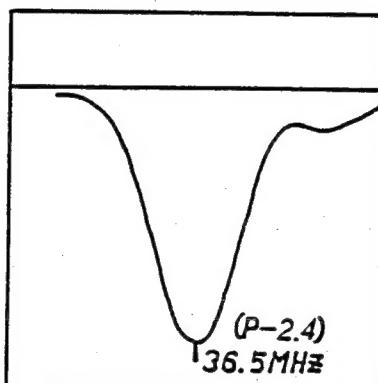

Fig. 4
7. Adjust L206 so that the bottom of the waveform matches P-2.4. (Refer to Fig.4)